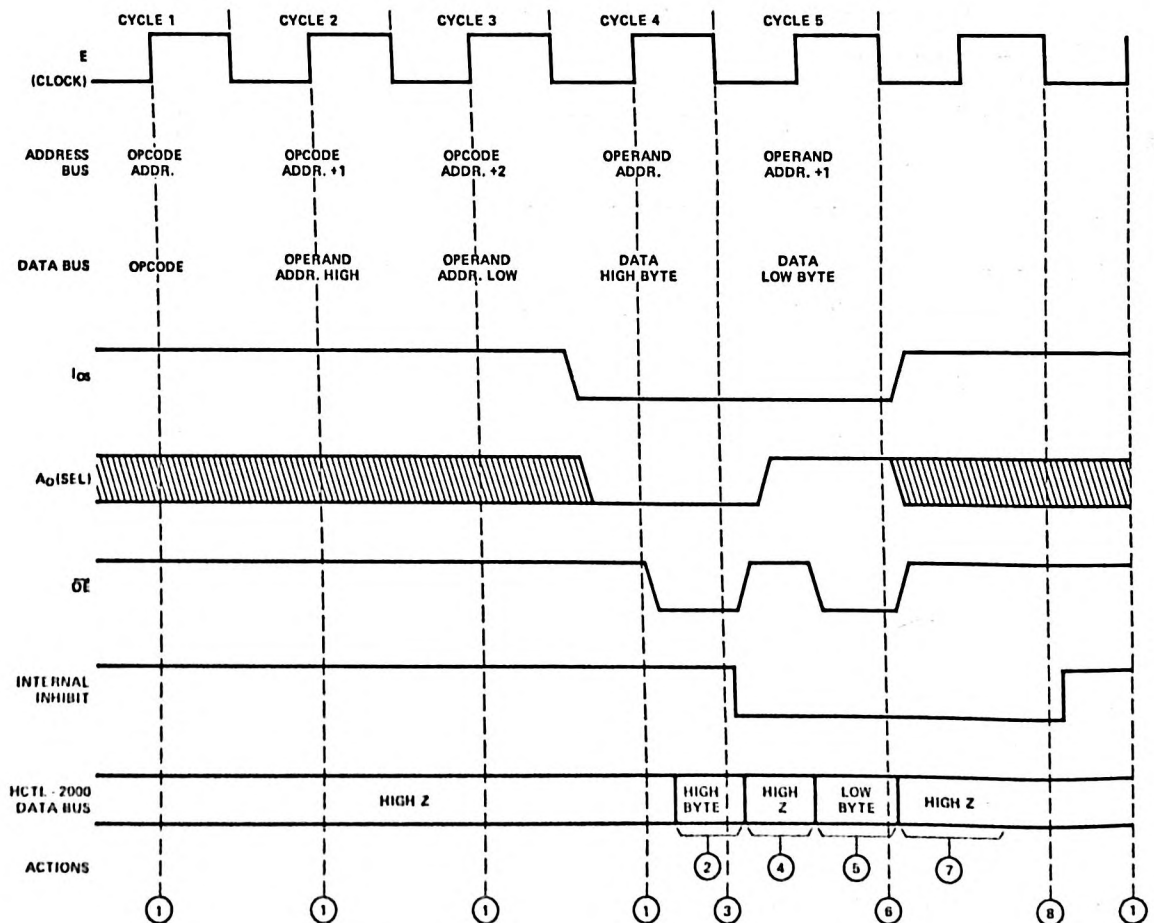
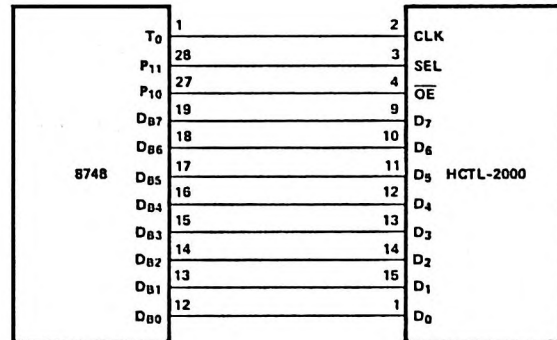

Figure 15. Interface Timing for the 6801 LDD E
Figure 16. An HCTL-2000 to Intel 8748 Interface
The processor clock output (E) is used to clock the HCTL-2000 as well as the address decoder. One of the address decoder outputs drives the \overline{OE} input. This results in HCTL-2000 counter data being enabled onto the bus whenever an external memory access is made to the HCTL-2000. This example assumes the address assigned to the HCTL-2000 high byte is an even address. The least significant address bit is connected to the SEL input. It determines which data byte is output. When A0 on the decoder equals 0 the chip selects the high byte, and when A0 equals 1, the chip selects the low byte. This configuration allows the 6801 to read both data bytes with a single double-byte fetch instruction (LDD E, 01XX). The LDD instruction is a five cycle instruction which reads external memory location 01XX and stores the high order byte in accumulator A and reads external memory location 01XX + 1 and stores the low order byte in accumulator B during the last two cycles. Figure 15 illustrates the sequence of events during all five cycles.
The circuit in Figure 15 shows the connections between an HCTL-2000 and an 8748. Data lines D0-D7 are connected to the 8748 bus port. Bits 0 and 1 of port 1 are used to control the SEL and \overline{OE} inputs of the HCTL-2000 respectively. T0 is used to provide a clock signal to the HCTL-2000. The frequency of T0 is the crystal frequency divided by 3. T0 must be enabled by executing the ENT0 CLK instruction after each system reset, but prior to the first encoder position change. An 8748 program which interfaces to the circuit in Figure 16 is given in Figure 17. The resulting interface timing is shown in Figure 18.